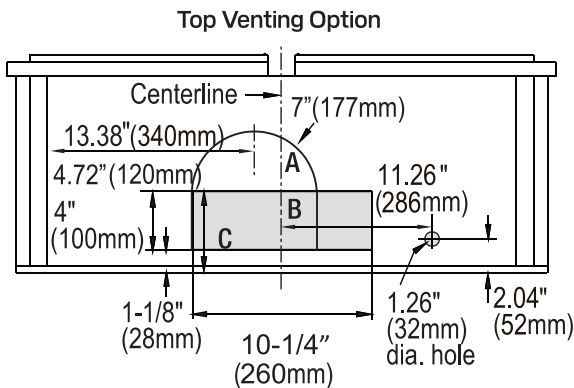
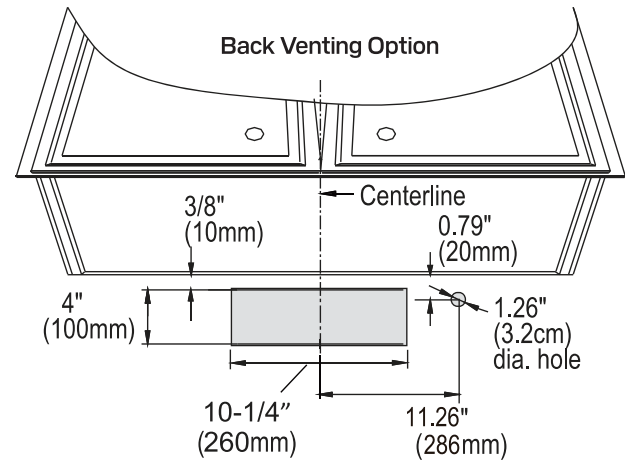

Fig.3
Fig.4
- Determine if your existing venting system is top venting or back venting, and ensure that the openings in the cabinet or wall for the damper and for power access are in appropriate locations and are of appropriate sizes, as per Fig. 3 if it is top vent or Fig. 4 if it is back vent. For top venting option (Fig. 3), if you are using the round adapter, the opening should be A and B only. If you are using the rectangular damper, opening should be B and C only.